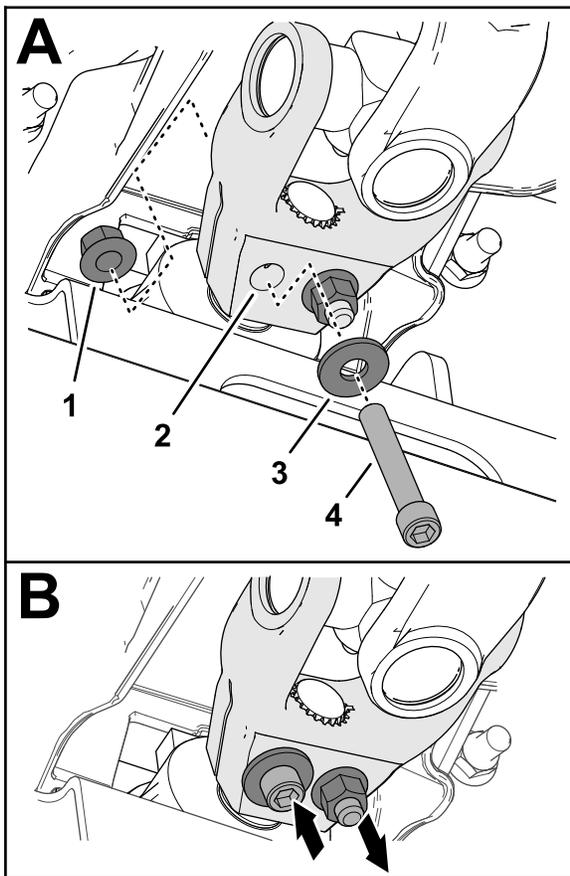

Figure 17
6. Assemble a socket-head capscrew (3/8 x 2-1/4 inches) through a washer (3/8 inch) and the hole in the driveshaft yoke (Figure 17), and secure the capscrew with a flange-locknut (3/8 inch).
- Assemble a socket-head capscrew (3/8 x 2-1/4 inches) through a washer (3/8 inch) and the hole in the driveshaft yoke from the opposite direction (Figure 17), and secure the capscrew with a flange-locknut (3/8 inch).